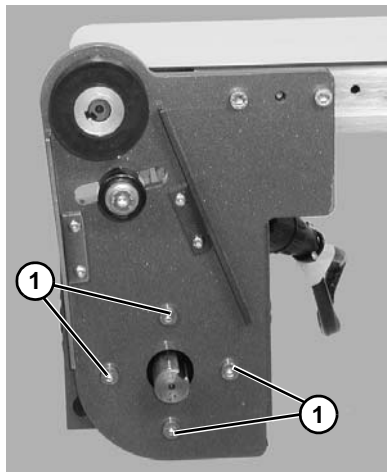

Figure 28
4. Remove four (4) gearmotor mounting screws (**Figure 28, item 1**). Remove gearmotor with adapter plate.
6. Install new gearmotor to adapter plate and mounting bracket. Tighten screws (**Figure 28, item 1**) to 103 in-lb (12 Nm).